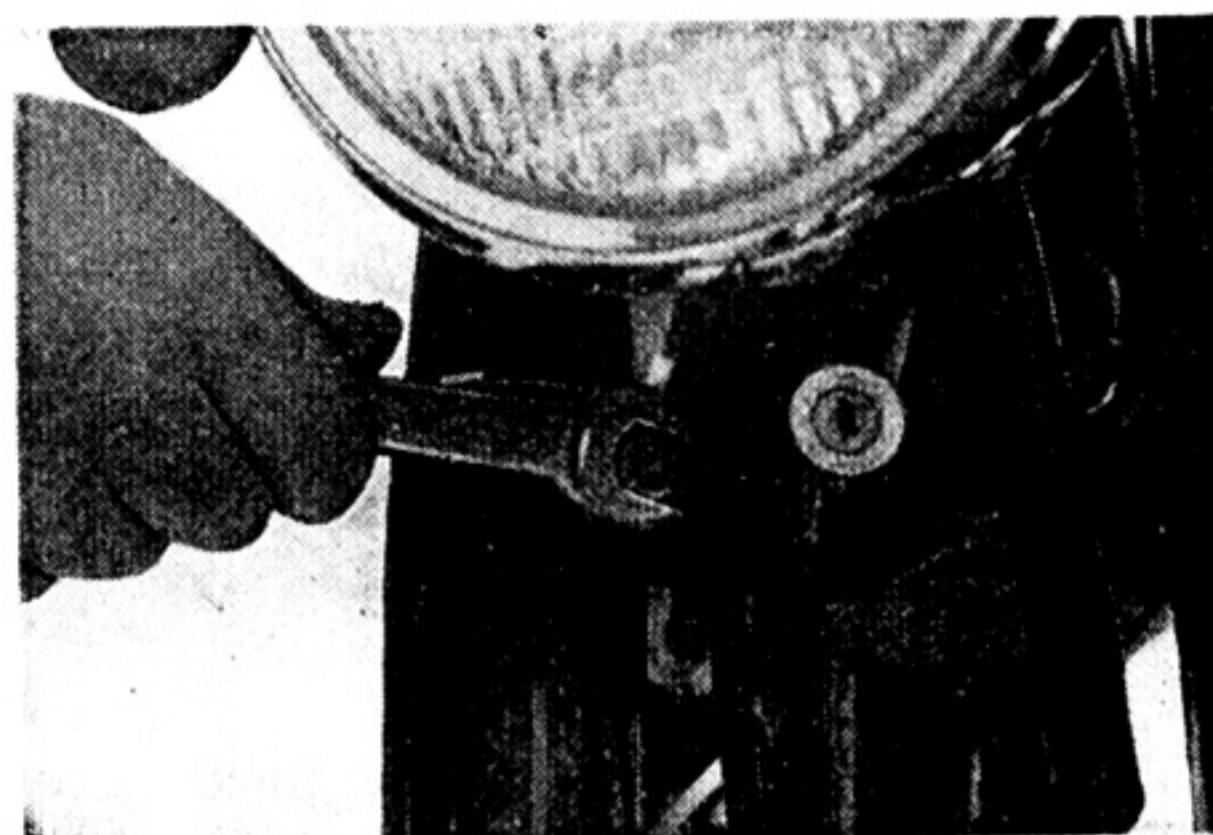

Fig. 4-5-1
- b. Loosen the inner tube clamping bolt on the under-bracket. (Fig. 4-5-1)